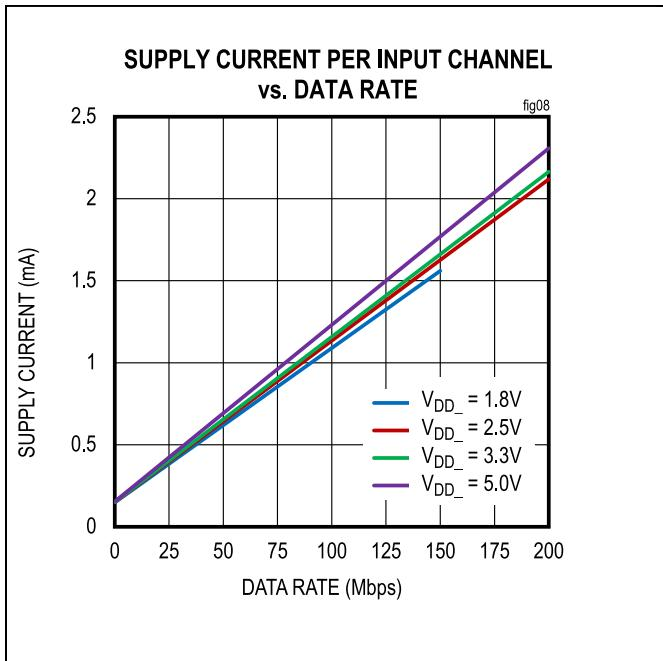
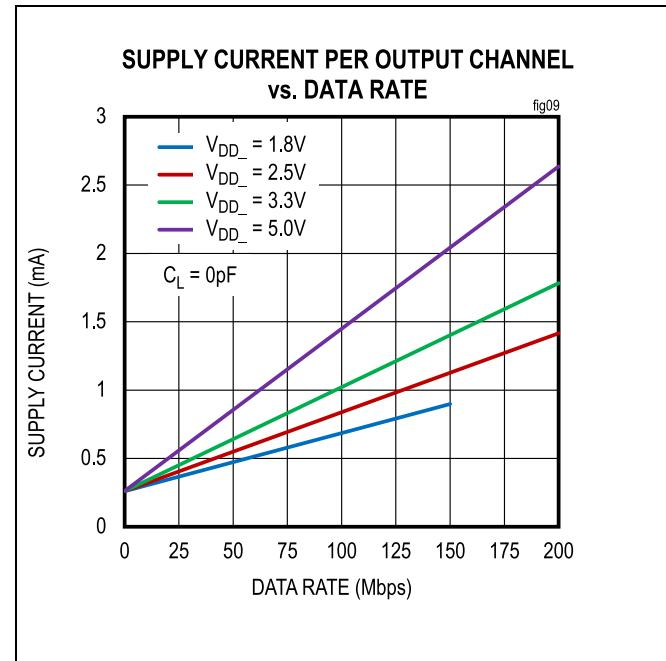

Figure 8. Supply Current per Input Channel (Estimated)
Figure 9. Supply Current per Output Channel (Estimated)
The supply current for a channel depends on whether the channel is an input or an output, the channel's data rate, and the capacitive or resistive load if it is an output. The typical current for input or output at any data rate can be estimated from the graphs in Figure 8 and Figure 9. Note that the data in Figure 8 and Figure 9 are extrapolated from the supply current measurements in a typical operating condition.
The total current for a single channel is the sum of the no-load current (shown in Figure 8 and Figure 9), which is a function of voltage and data rate, and the load current, which depends on the type of load. Current into a capacitive load is a function of the load capacitance, the switching frequency, and the supply voltage.
- Channel 1 is an output channel operating at 2.5V and 100Mbps, consuming 0.84mA, estimated from Figure 9.
- Channel 2 is an input channel operating at 2.5V and 20Mbps, consuming 0.35mA, estimated from Figure 8.
- Channel 1 is an input channel operating at 3.3V and 100Mbps, consuming 1.16mA, estimated from Figure 8.
- Channel 2 is an output channel operating at 3.3V and 20Mbps, consuming 0.41mA, estimated from Figure 9.